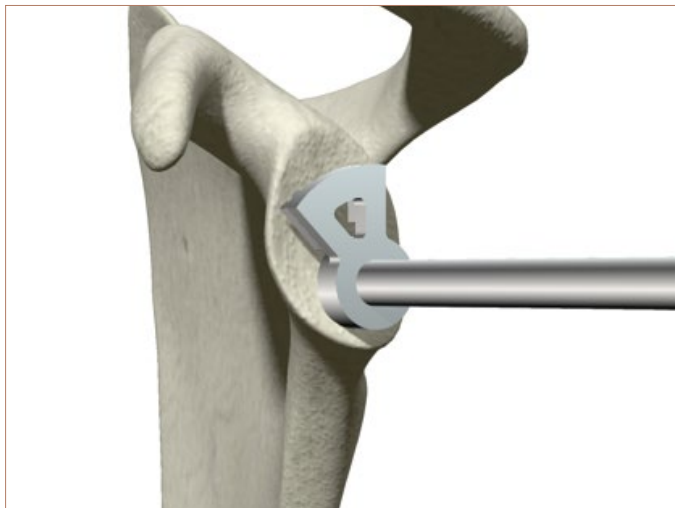

Figure 21
- If using an eccentric Glenosphere [See table below], after standard glenoid reaming has been completed, be sure to use the included eccentric glenoid planar [Figure 21] to ensure the eccentric Glenosphere can be properly seated to the Glenoid Baseplate without any interference from the backside of the Glenosphere.